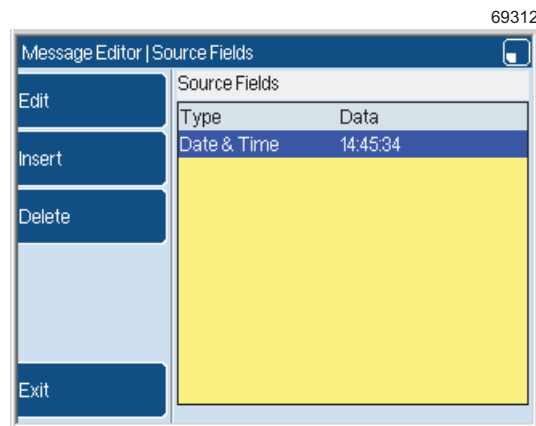

Figure 16. Source Fields: Date & Time field
- 11 When your changes in the 'Insert' page are complete, press the **Exit** key to return to the **Source Fields** page. In Figure 16, a Date & Time field was inserted and the format of this field is "HH:MM:SS".